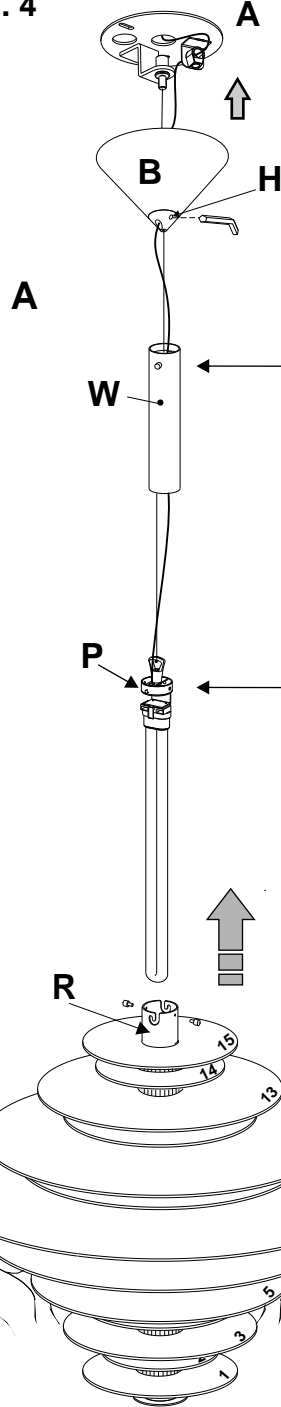

FIG. 1
- Fig. 1** Attach the canopy "A" to the J-box.